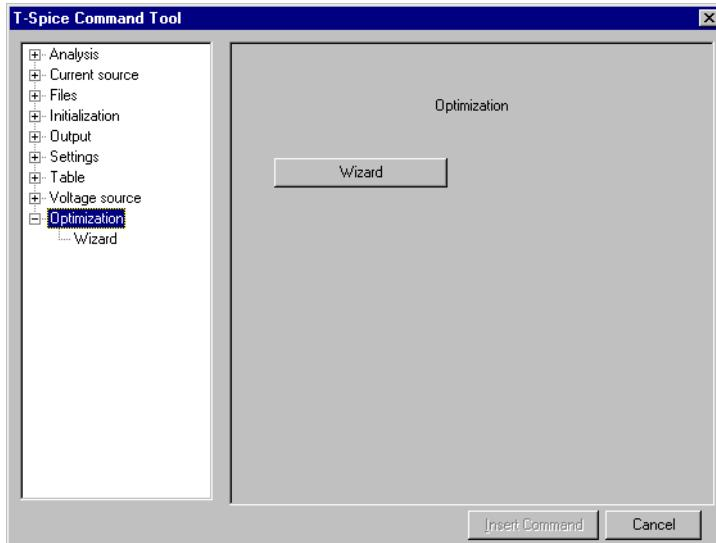

Figure 93: Customizing the optimization
- In the left-hand tree, double-click **Optimization** (Figure 93).